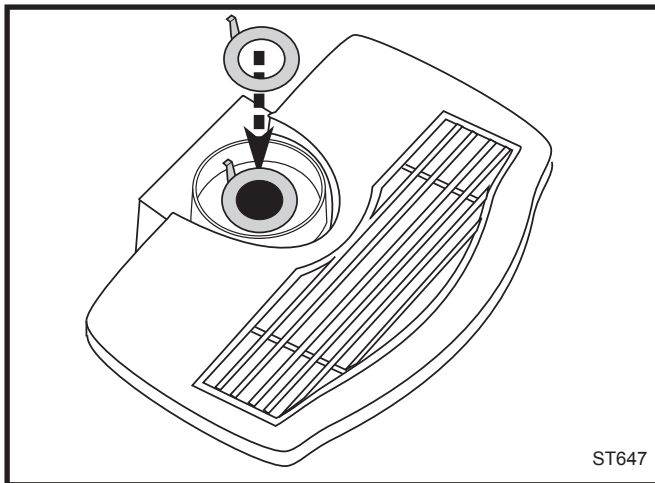

Fig. 18 Install the restrictor plate only if required for the venting configuration. Refer to Page 7.
1. **Install the Restrictor Plate.** Consult Page 7, Figure 8 to determine whether the restrictor plate is needed. If so, place the restrictor plate within the inner flue collar as shown in Figure 18.
- 1. Install the Restrictor Plate.** Consult Page 7 to determine whether the restrictor plate is needed. If so, place the restrictor plate within the inner flue collar as shown in Figure 18.